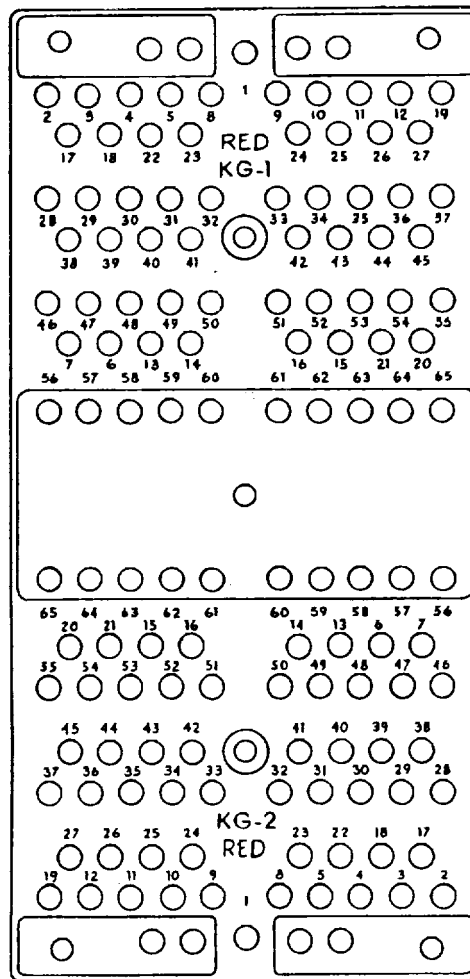

Figure 3-2. RED Terminal Board
3-3.1. Red Compartment Box Connections. Connect wiring to KG RED via the red compartment box terminal board (Figure 3-2) as follows:
- a. Using a Phillips head screwdriver, remove two pan head screws (1), lock washers (2), and flat washers (3) that secure red compartment box cover (4) to red compartment box. Remove cover.
- b. Using Figure 3-2 and Table 3-1 as a guide, connect fixed plant wiring through cutouts to KG1 RED. Repeat for KG2. Terminal numbers match their corresponding KG RED connector pin numbers.